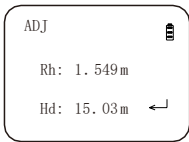
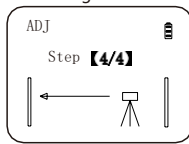

Fig 28
Fig 29
- (5) Move instrument to Point 2 and set it properly, measure Staff B. After data showed up as Figure 28, press SET button to the next step (Figure 29).